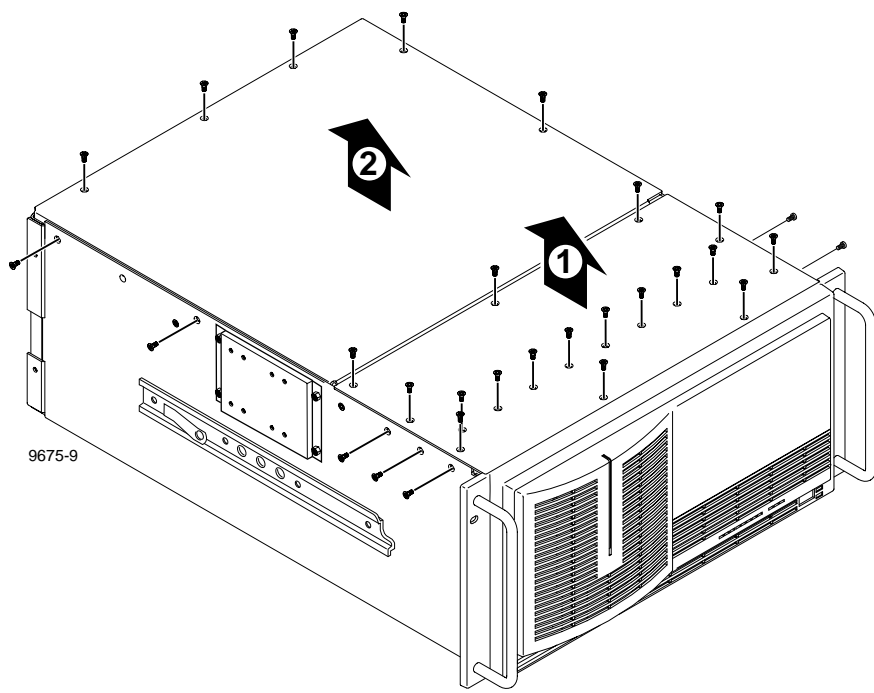

Figure 2. Removing the front and rear chassis covers
3. Use the Torx tool with the T10 tip to remove the top screws from the front chassis cover (❶ in Figure 2) and use the T15 tip to remove the round-headed side screws. Set the cover aside.
4. Use the Torx tool with the T10 tip to remove the rear chassis cover (❷ in Figure 2). Set the cover aside.
1. Use the Torx tool with the T10 tip to remove the exterior screw (❶ in Figure 2) that secures the rear board hold-down bracket.
2. Lift the bracket (❷ in Figure 2) up and out of the chassis and set it aside.
3. Use the Torx tool with the T10 tip to remove the interior screw (❸ in Figure 2) that secures the front board hold-down bracket.
4. Lift the bracket (❹ in Figure 2) up and out of the chassis and set it aside.